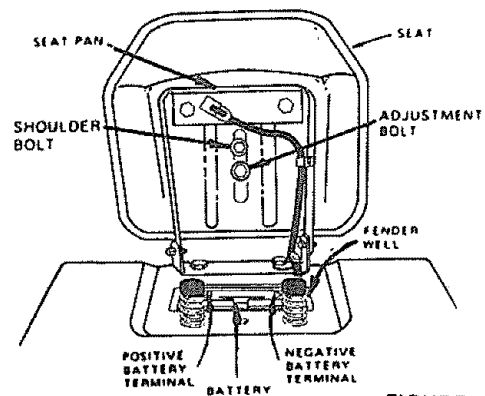

FIGURE 2
- Place seat on seat pan. Screw hex head machine screw, lockwasher and flat washer into seat (Fig. 2). Screw shoulder bolt into seat (Fig. 2). Machine screw, shoulder bolt and washers found in bag of parts (shown full size on page 6).
- a. Lift seat (Fig. 2).